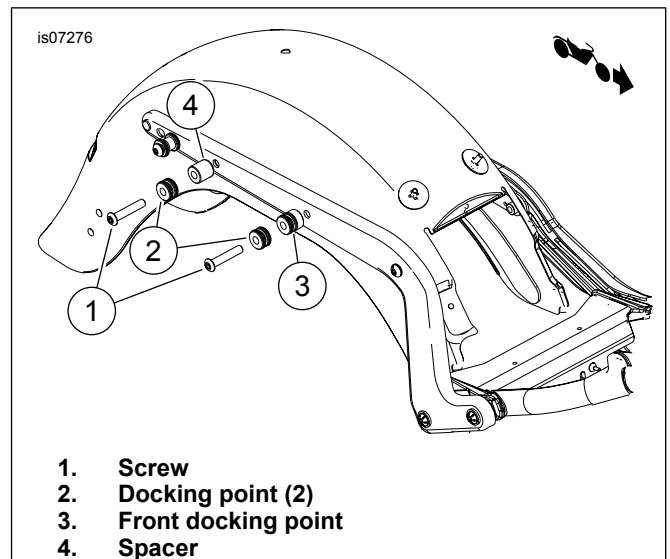

Figure 4. Docking Point Installation (With Other Detachable Accessories)
WITH Other Detachable Accessories: See Figure 4. Insert screws (1) through mini docking points (2), front docking point (3) and rear spacer (4). Install screws into fender support mounting bracket (inside fender). Tighten screws to 28–36 N·m (21–27 ft-lbs).